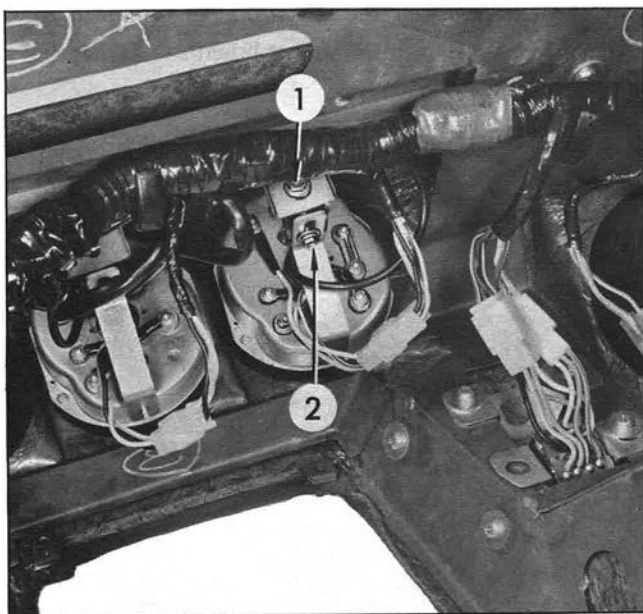

Fig. BE-21 Removing water temperature gauge and oil pressure gauge
2. Inserting hand into the opening where the center console finisher has been removed, loosen hexagonal cross-headed screws [① and ② in Figure BE-21] use pair of pliers, and remove the unit from the reverse side of the instrument panel.